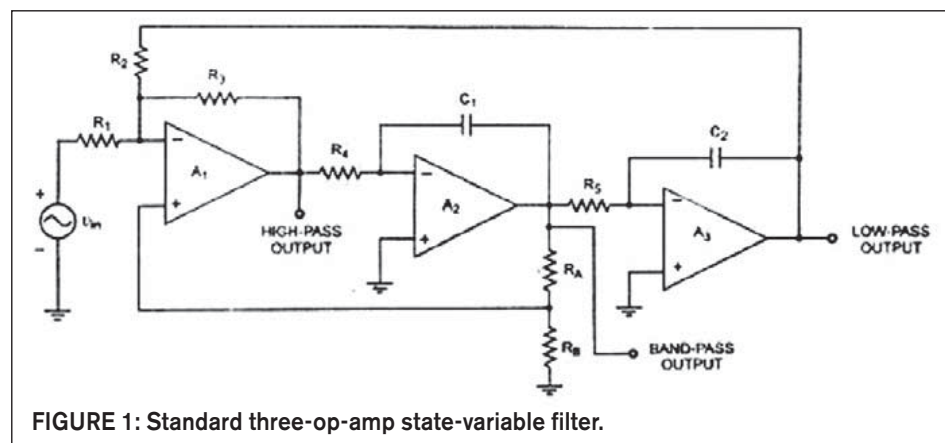
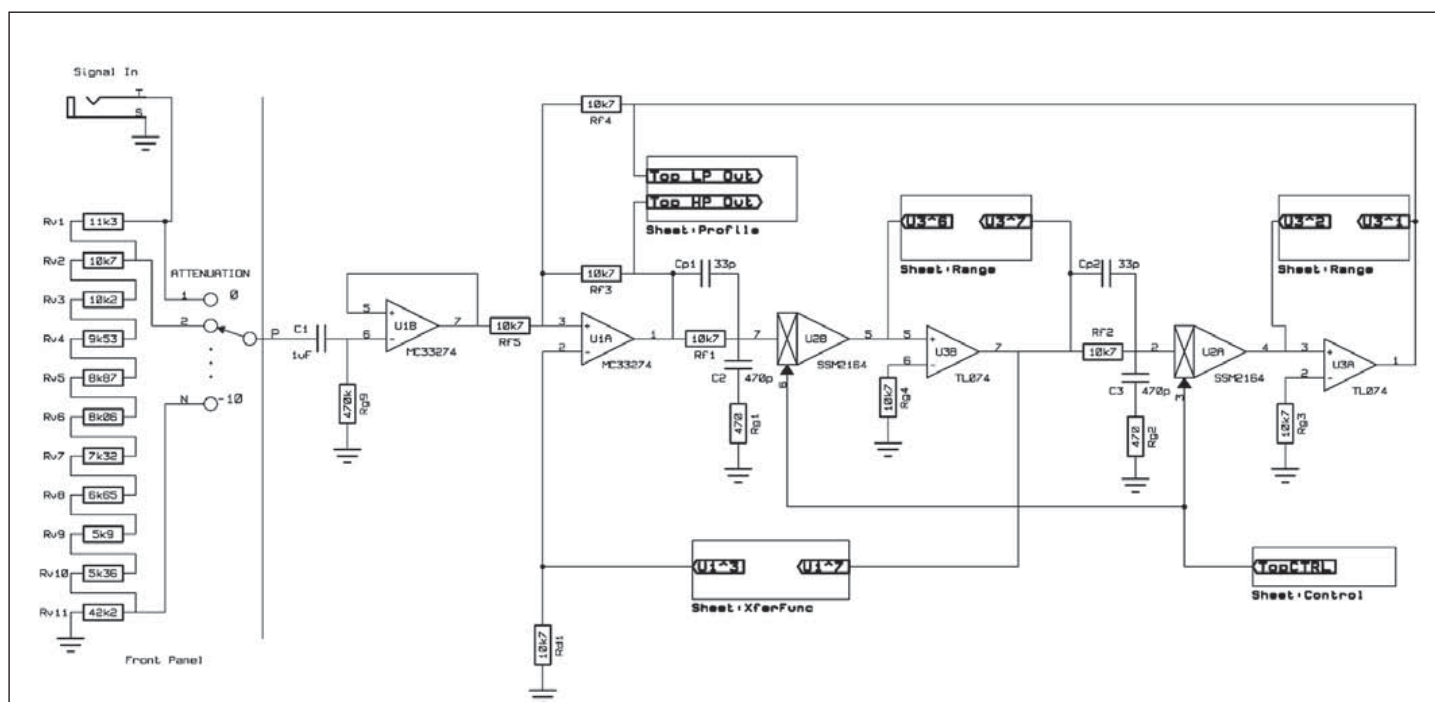

FIGURE 1: Standard three-op-amp state-variable filter.
FIGURE 2: First state-variable section of the AF-108.
The circuit consists of several modules. At the core of it is a pair of standard state-variable 2nd-order filter sections that are cascaded to provide a 4th-order filter. You can find the 2nd-order state-variable filter (Fig. 1), a building block using standard op amps, in standard filter design books. I chose this because it is well documented and would provide me the greatest design flexibility. The realization of this for the first section of the AF-108 appears in Fig. 2; the second section is very similar and is not shown for brev-
- Within each range, the frequency is varied continuously using a voltage controlled amplifier (VCA, the SSM2164 from Analog Devices) placed immediately after R4 and R5 in **Fig. 1**, which acts as an R-multiplier and changes the effective resistance "seen" at the inputs of A2 and A3, respectively. This accomplishes a frequency variation of 1:10 within a band. With the values shown, the characteristic frequency can be varied from 10Hz to 100kHz.